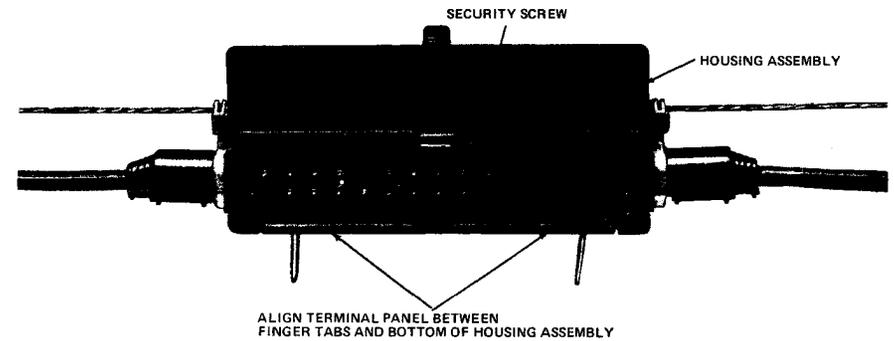

Fig. 30—Installing Housing Assembly
4.26 Place the housing assembly on the terminal panel assembly by sliding the door of the housing assembly between the cable and strand. Align the housing with the terminal panel making sure the bottom of the terminal panel is positioned between the finger tabs and the outer shell of the housing assembly (Fig. 30).